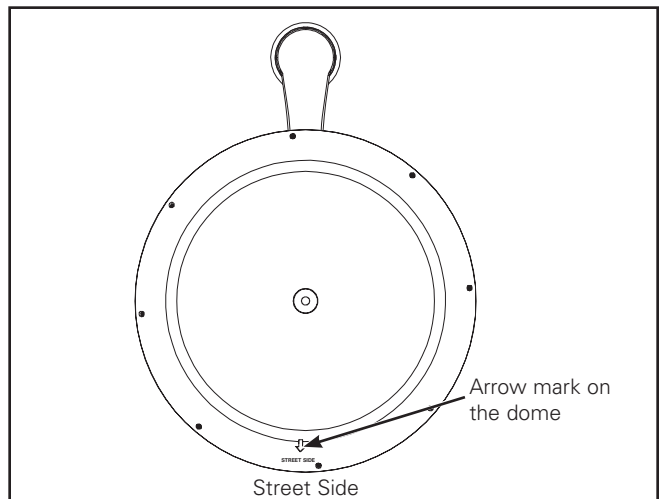

Figure 8.
11. For luminaire with asymmetric optics, rotate the fixture according to arrow mark on the dome towards the street side. (Figure 8.)